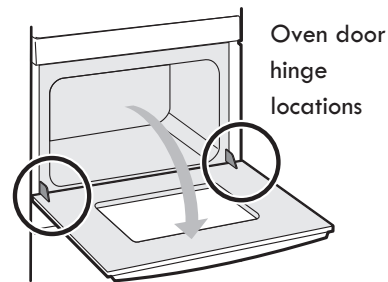

Figure 29: Door hinge location
1. Open oven door completely, horizontal with floor (See Figure 29).
3. Fully open the oven door, horizontal with floor (See Figure 29).